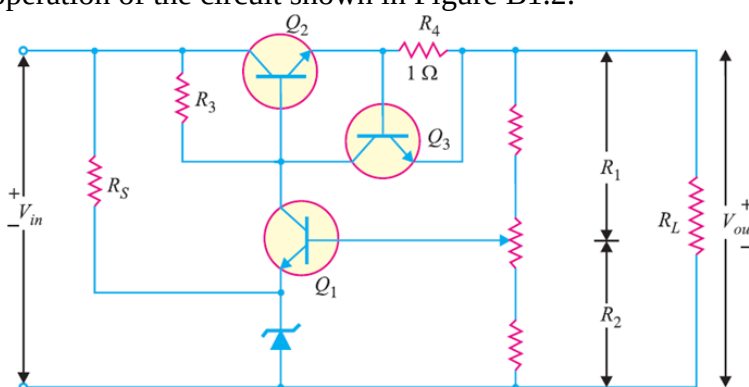

Figure B1.2
- b. Explain the operation of the circuit shown in Figure B1.2.